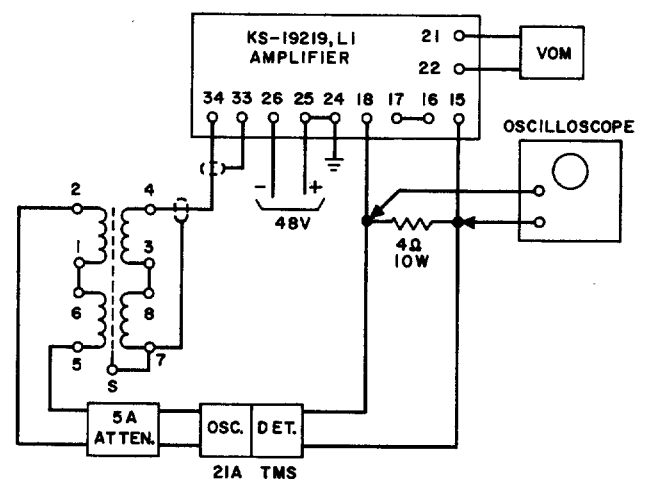

Fig. 1 — Tests of Reproduce Channel
3.01 The setups of the test equipment for testing the amplifier are shown in Fig. 1, 2, and 3. For these tests, potentiometers R1 and R6 on the amplifier and R109 on the voice-operated relay should be in the maximum counterclockwise (ccw) position and capacitor C3 shorted except as noted in the tests. ←
3.02 Tests of Reproduce Channel: Connect the amplifier as shown in Fig. 1 and proceed with the following instructions: